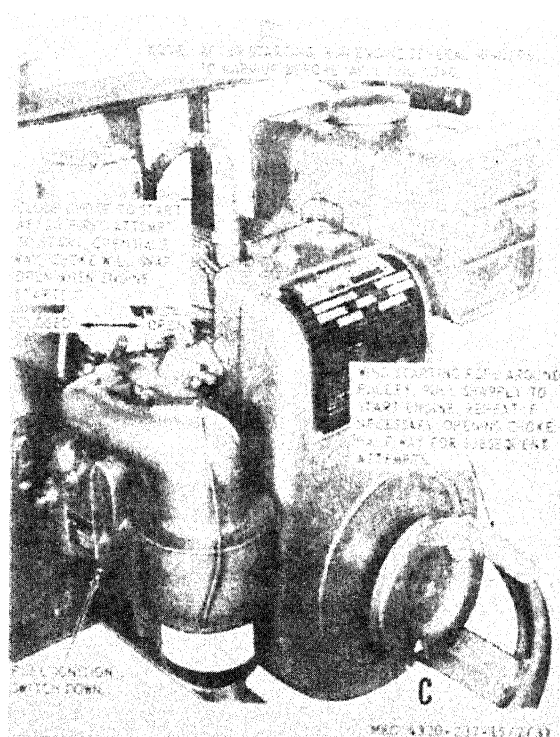

Figure 7 (3)—Continued.
b. Refer to figure 7 to start the pumping assembly.